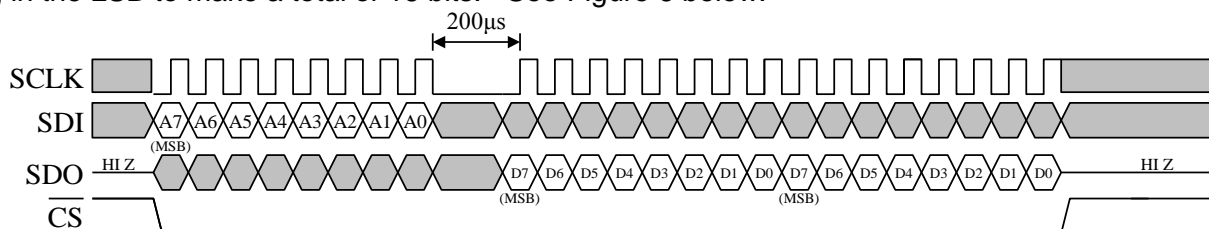

Figure 5 Timing Diagram for an A/D conversion and 12-Bit data read operation.
MSB of this command indicates if you are writing to (0) or reading from (1) the register. After the eight clock cycles used to send the command, the host must hold SCLK low for at least 200µs during the A/D conversion time. Note that all returned data is sent MSB first. Once the data is received, nCS must be returned high for at least 130ns before the next data request. Figure 5 on the following page shows the timing and diagram for the accelerometer 12-bit ADC read operation.